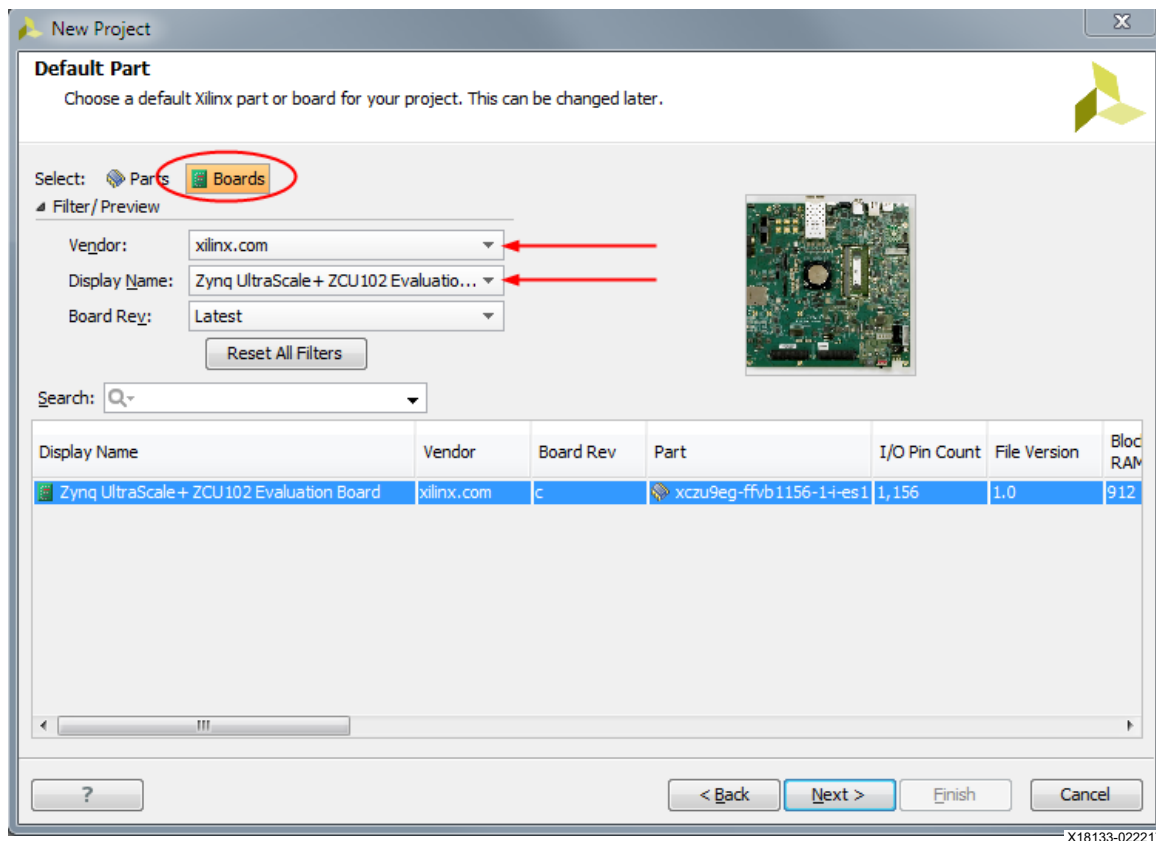

Figure 18: Design 2 - Board Selection
- d. Select **Boards**, set **Xilinx** as the vendor, and select the **Zynq UltraScale+ ZCU102 Evaluation Board**. See Figure 18.